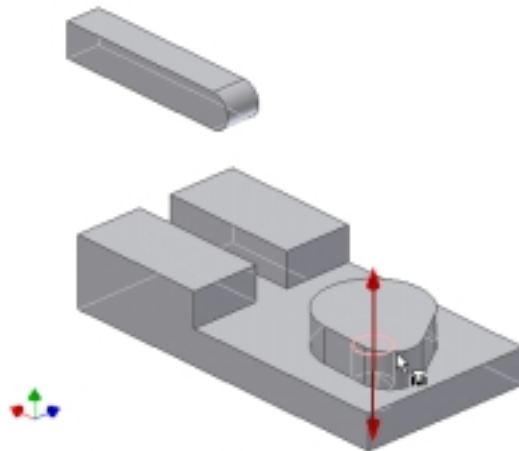

Figure 3-18
4. Release the Alt key and drag the component to the circular edge of the base indicated in Figure 3-18.